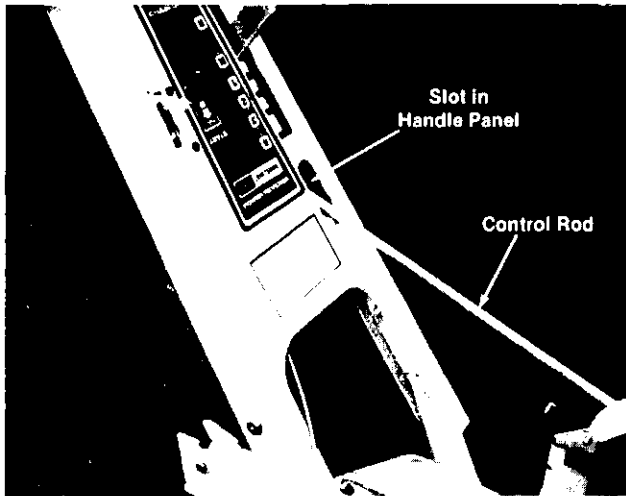

FIGURE 10.
A. Place control rod through slot in handle panel, hook end of rod goes towards the front of tiller. See figure 10.